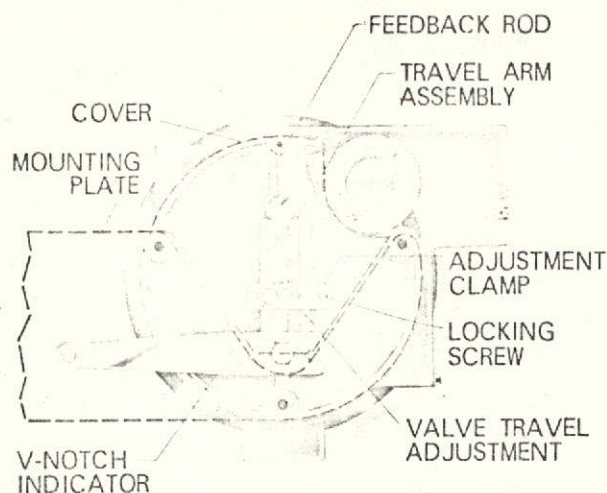

Figure 6. Rear view of Type 3590 valve positioner.
6. Adjust turnbuckle (Key 7, Figure 13) until the feedback rod (Key 16, Figure 11) is parallel, as shown in Figure 6, to the travel arm assembly (Key 19, Figure 11).